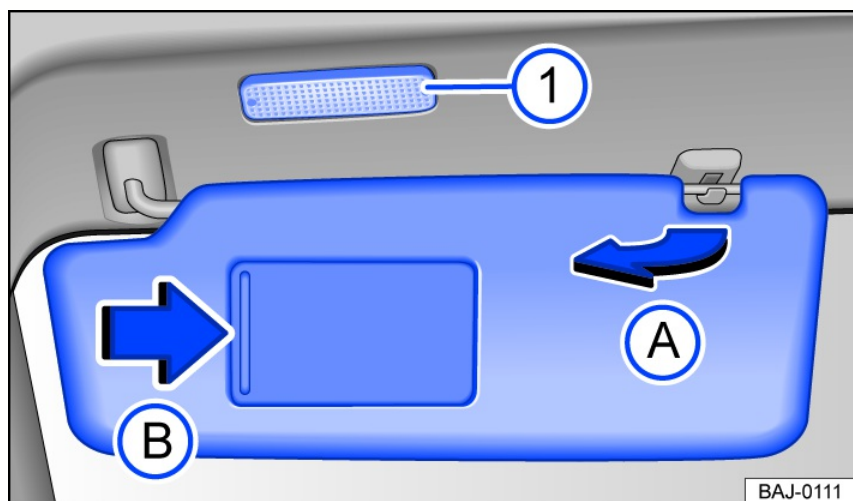

Fig. 81 In the front of the headliner: sun visor.
- Remove from the holder and tilt toward the door *fig. 81* **A**.
When the sun visor is folded down, there is a vanity mirror located behind a cover. The lights *fig. 81* **1** turn on when the cover *fig. 81* **B** slides open.